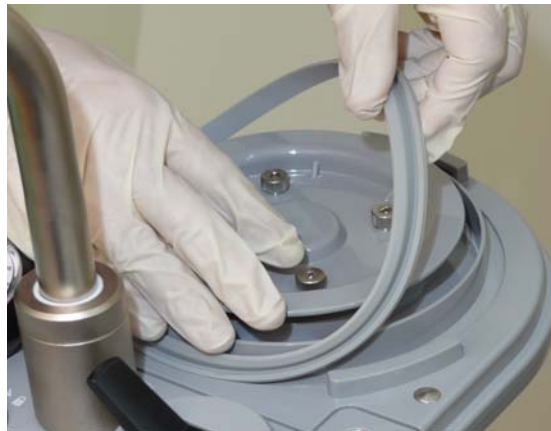

FIGURE 7-9 Removing the Bellows Dome O-ring
5. Remove the bellows dome O-ring as shown in FIGURE 7-9.